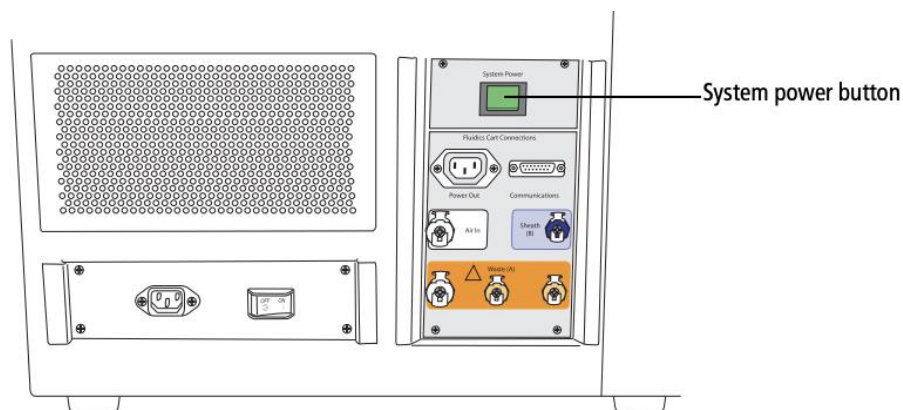

Figure 1 - FACSCantoll Power Panel
1. Turn the FACS Cantoll ON by pressing the green power button on the left side of the analyzer (see Figure 1).